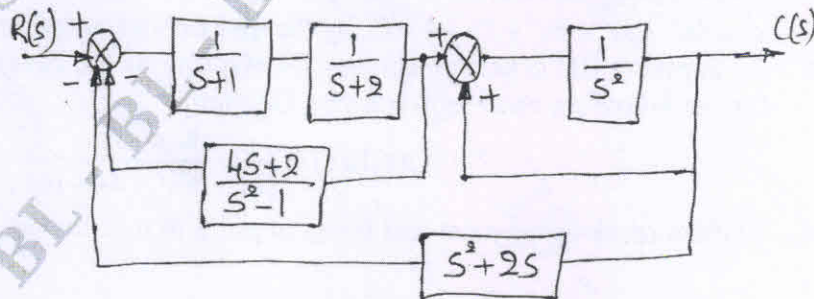

Fig. Q5 (a)
- 5 a. For the system shown in Fig. Q5 (a), determine closed loop transfer function.